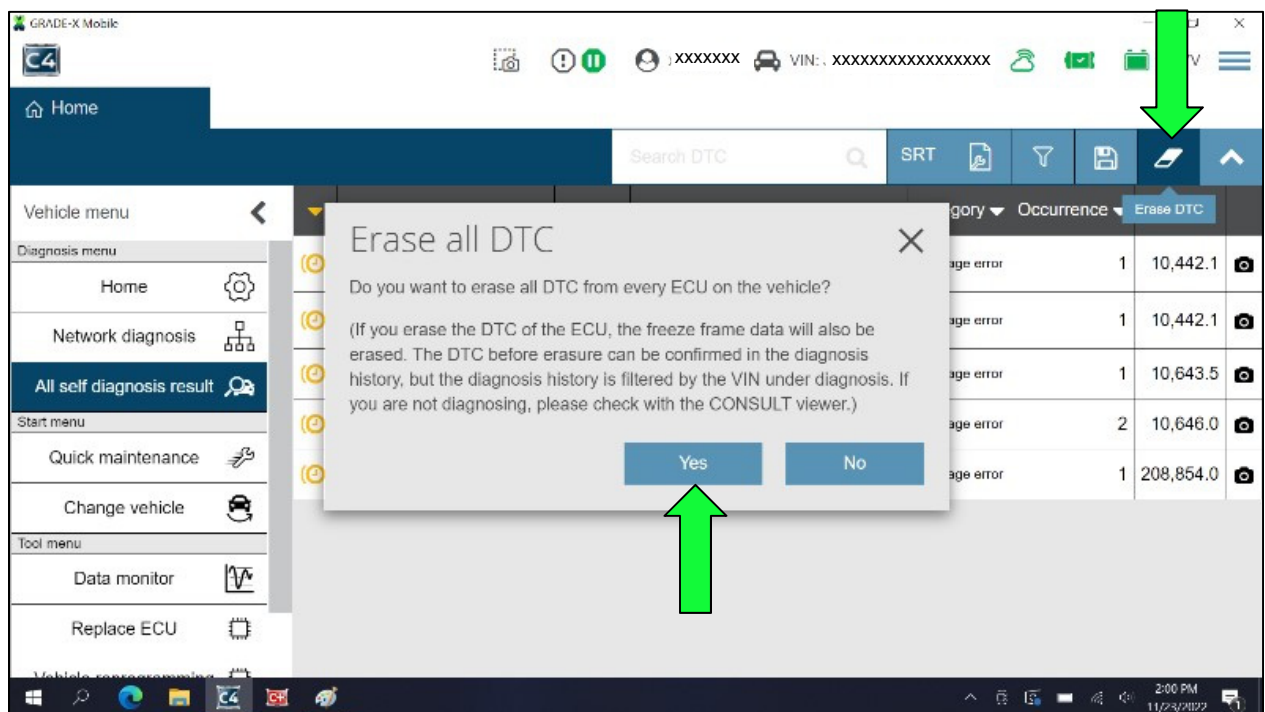

Figure 24
b. Select the **Erase DTC** icon, and then select **Yes** to erase (Figure 24).